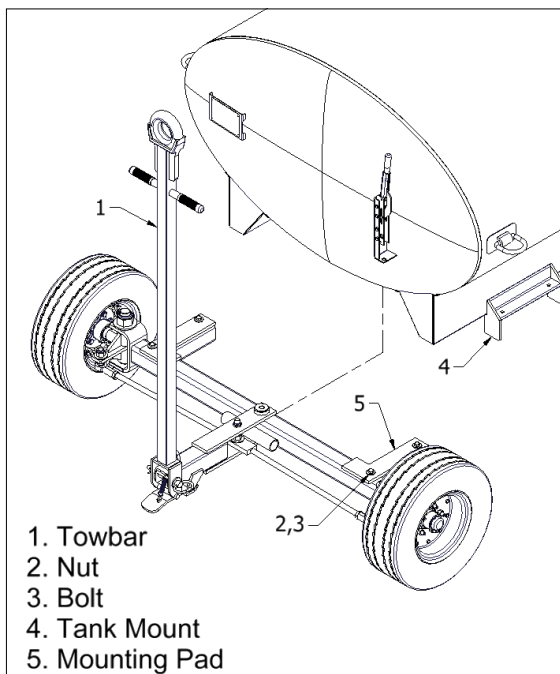

Figure 4-6 Front Undercarriage Removal
- Remove bolts (2) and nuts (3), (see Figure 4-6).
- Pull Front Undercarriage forward. Note location of rubber mounting pads (5).